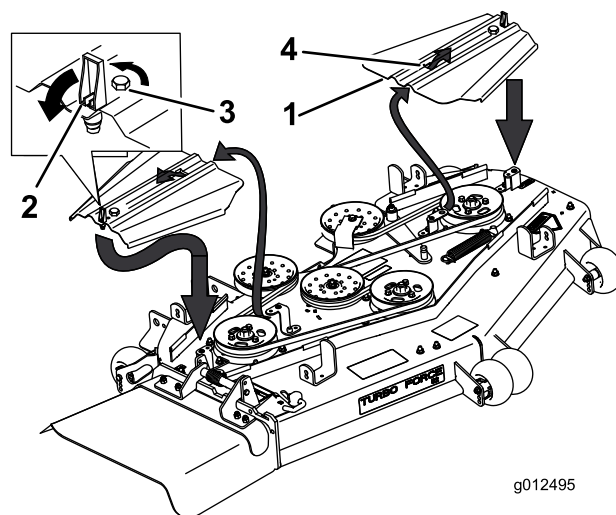

Figure 67
5. Remove the belt covers and the bolts attached to them (Figure 67).
12. Install the belt covers by sliding the cover into the tab, tighten the bolts, and close the latches (Figure 67).